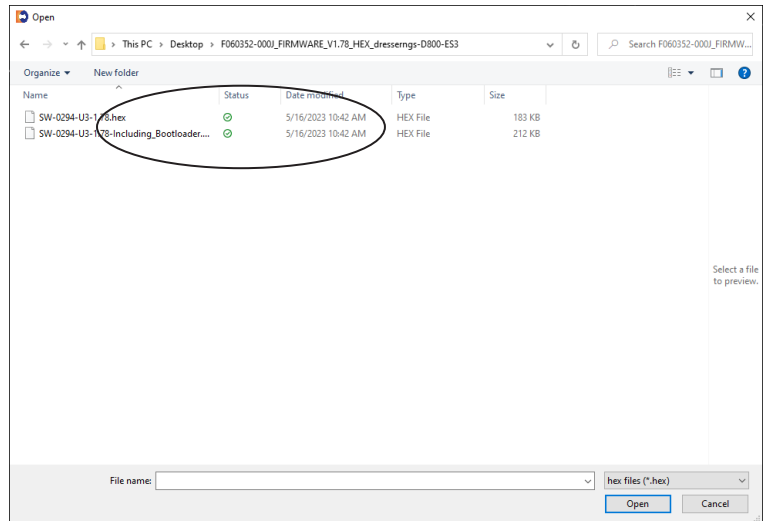

Figure 12.4 Example - Select the .hex file
- From the Open screen, select the appropriate firmware upgrade file ending in “.hex,” which in this example is “SW-0294-U3-1.67a.hex.” Refer to Figure 12.4 Example.